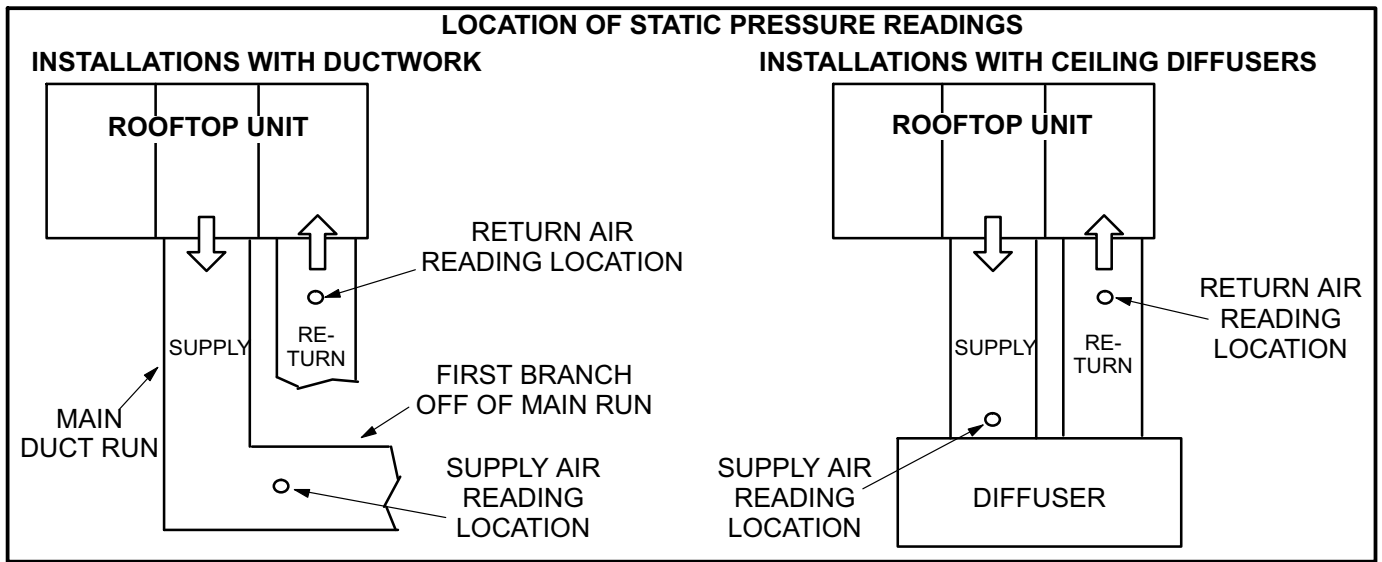

FIGURE 8
2. With all access panels in place, measure static pressure external to unit (from supply to return). Blower performance data is based on static pressure readings taken in locations shown in figure 8.